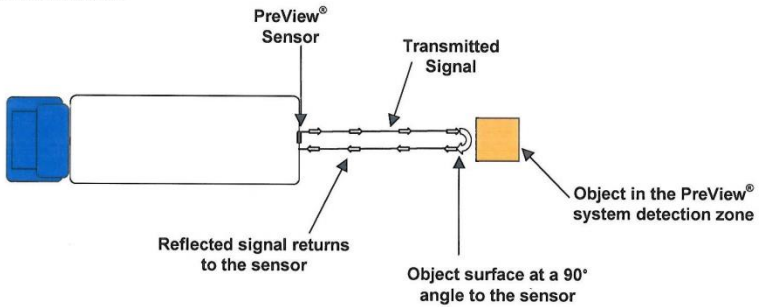

Figure 1. Object Reflection
**Angle** – an object flat side perpendicular to the sensor will reflect more energy than an object at an angle. See Figure 1 for an example of how angle can affect return energy.